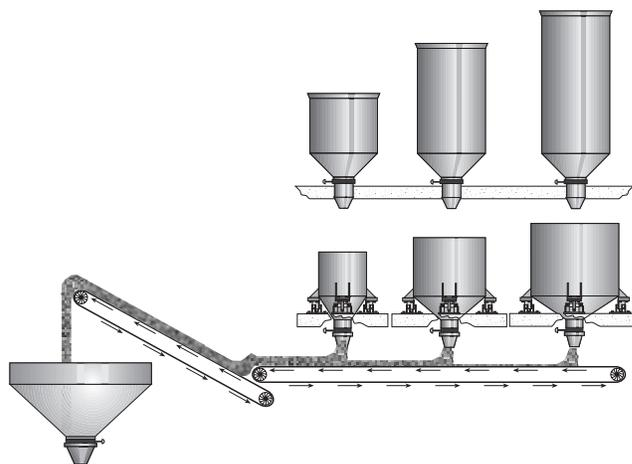

Figure 1-12
- H. The system illustrated in Figure 1-12 below is a multi-ingredient batching system which has a separate weigh hopper for each ingredient.